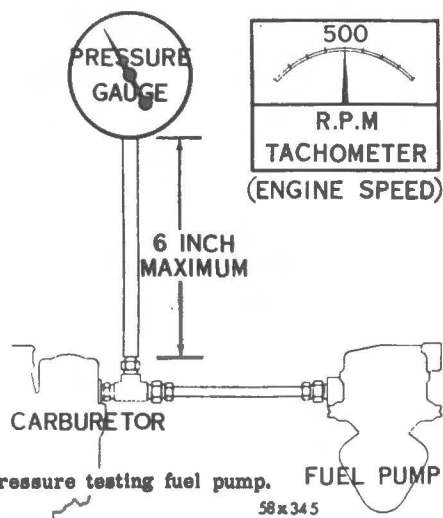

Fig. 5 - Pressure testing fuel pump. 58x345
(1) Insert a "T" fitting in the fuel line at the carburettor, as shown in Fig. 5.
(2) Connect a 6" piece of hose between the "T" fitting and gauge C-3411. (The hose